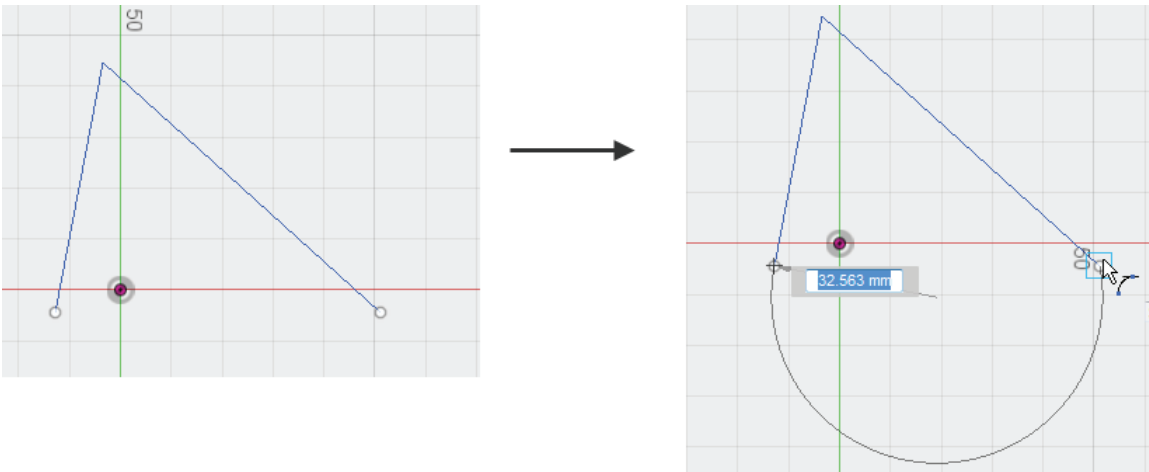

Figure-20. Creation of tangent arc
- Click near the end point of an entity (line, arc or curve) from screen to specify the start point of the arc; refer to Figure-20. A rubber-band arc will be attached to cursor starting from selected point.